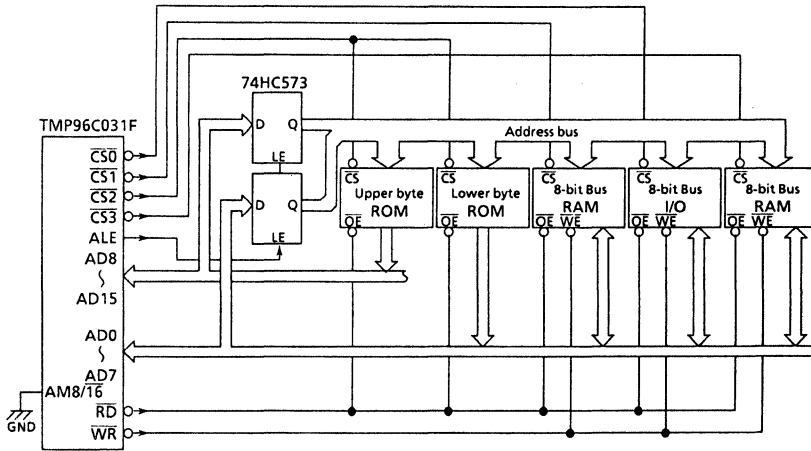

Figure 3.6 (7). Example of External Memory Connection (ROM = 16-bit, RAM and I/O = 8-bit)
(1) Connection example 1
Figure 3.6 (6) is an example (1) in which an external memory is connected to the TMP96C031F. In this example, a ROM is connected using 16-bit Bus; a RAM is connected using 8-bit Bus.